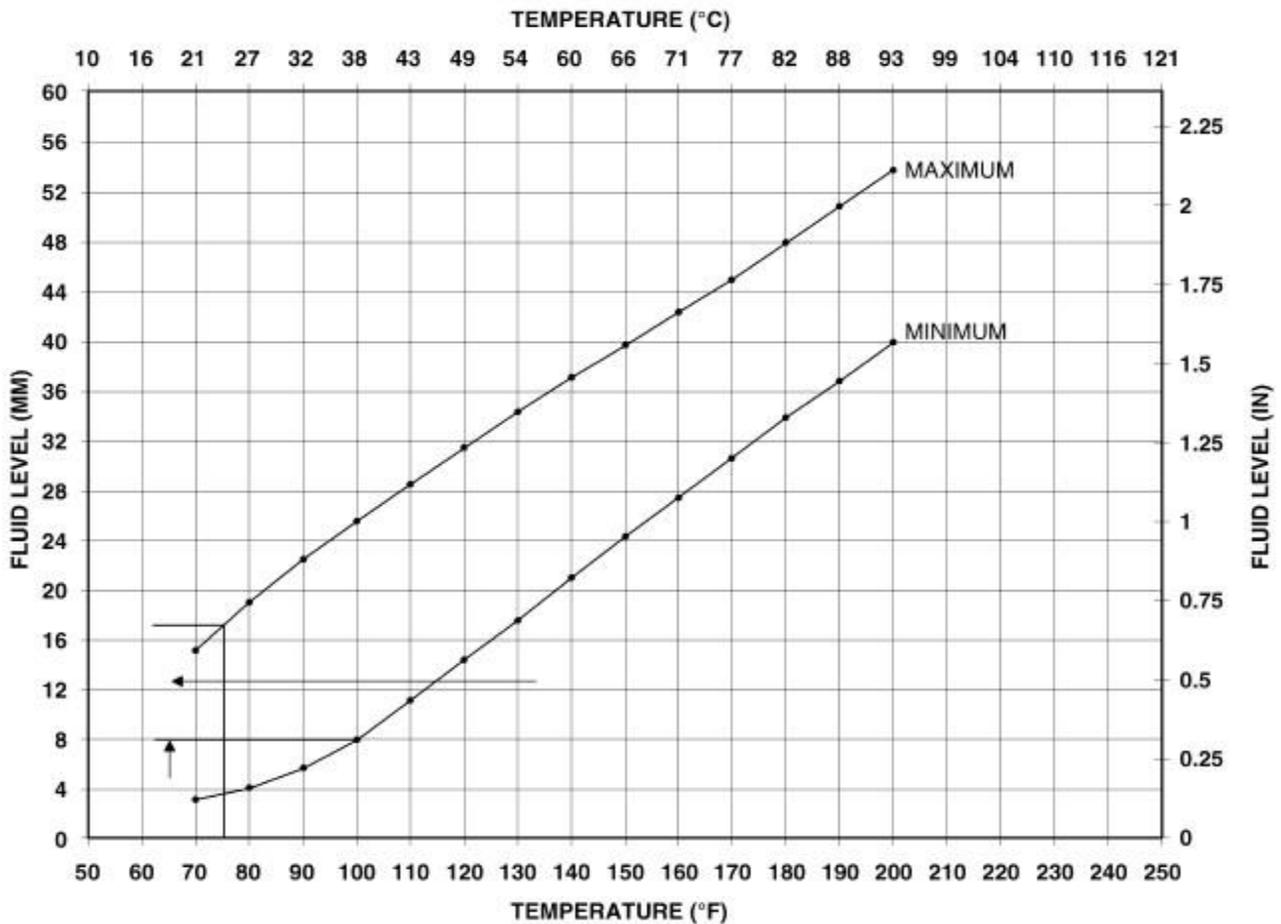

Figure 38 – Fluid Temperature/Level Chart
8. The transmission Oil Dipstick 9336A has indicator marks every 10 mm. Determine the height of the oil level on the dipstick and using the height, the Transmission Fluid Temperature (TFT) as viewed with the scan tool, and the Transmission Fluid Graph, determine if the transmission oil level is correct (Figure 38).